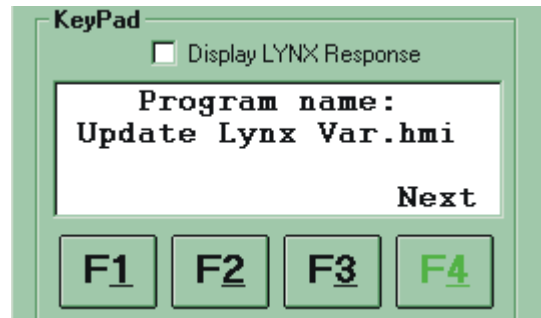

Figure 4.11: Screen 1 Setup
- 2] Enter the text into the display window as shown in figure 4.11.